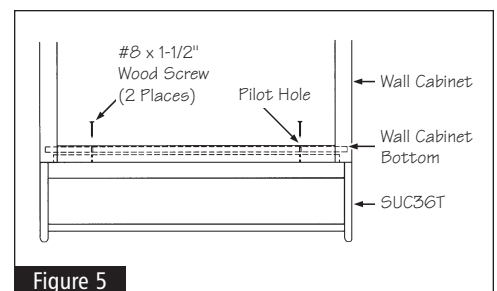

Figure 5
**3** Using a 3/32" drill bit, drill a pilot hole approximately 1-1/2" deep through the back of the SUC36T and into each stud that was marked in Step 1. Re-position the unit into the desired location. See Figure 5.